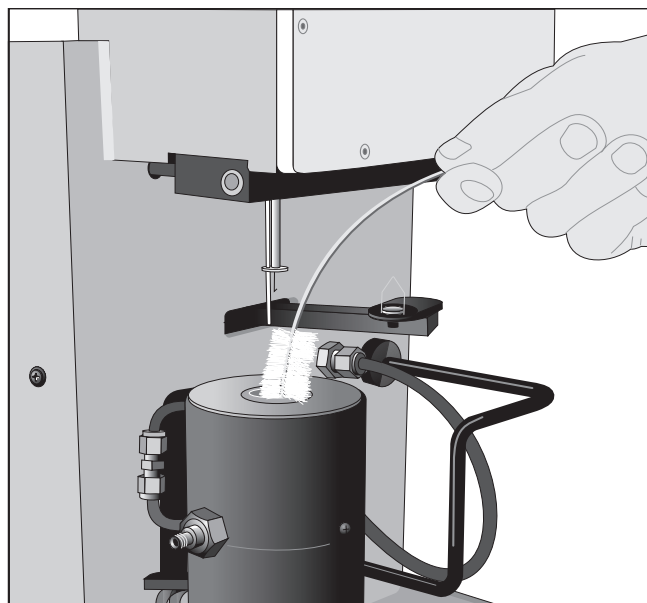

Figure D.3
5. Using a soft bristle brush (we recommend a flexible bottle brush), gently slide the brush up and down to clean out the inside of the furnace tube, allowing the handle to bend freely (see Figure D.3).